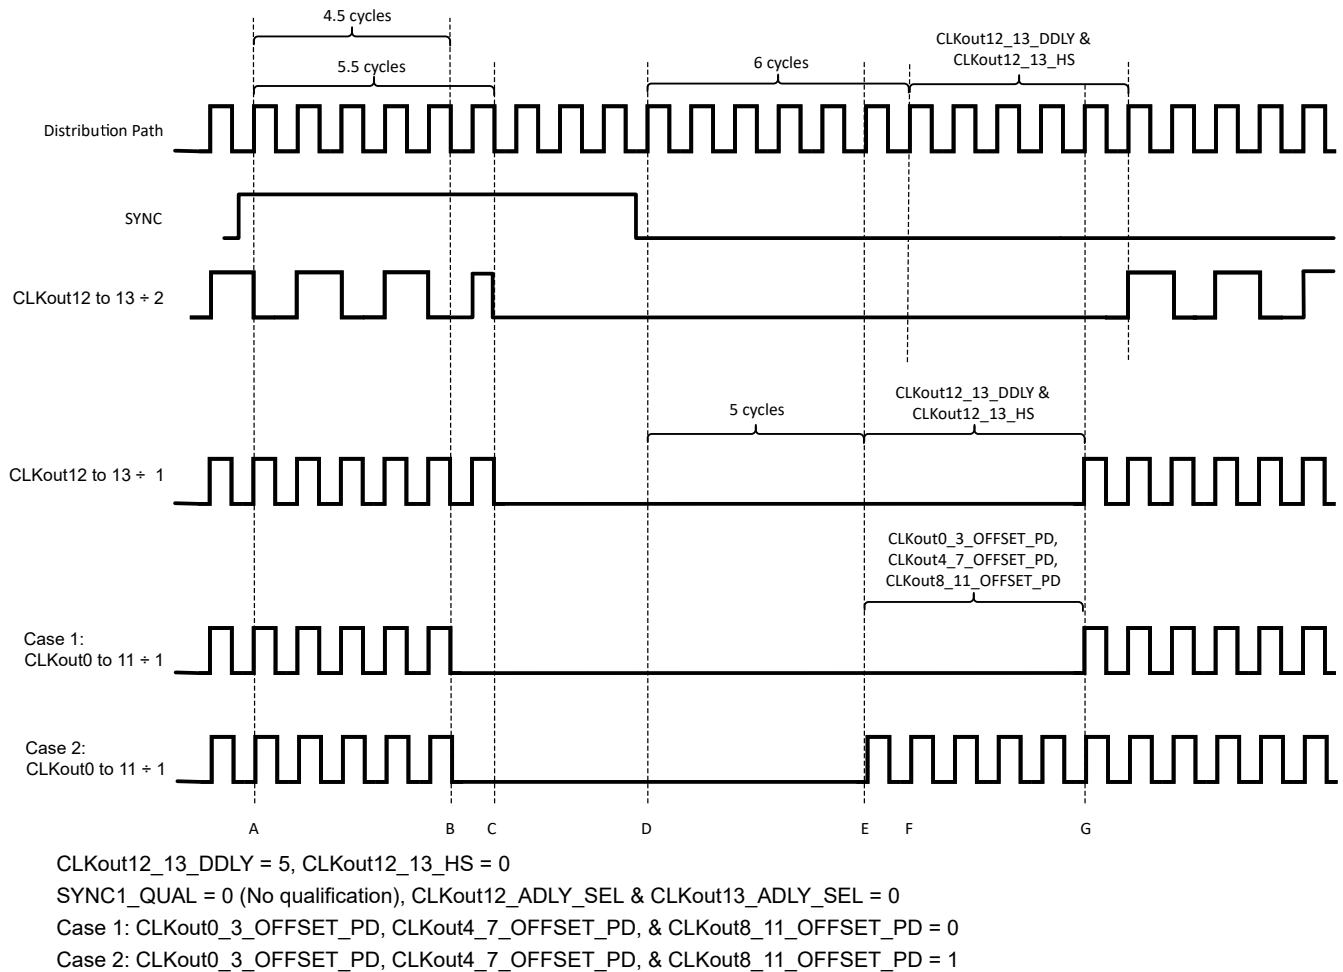

Figure 9-1. Clock Output Synchronization Using the SYNC1 Pin (SYNC1 is Active High, SYNC1_POL_INV = 0)
Refer to Figure 9-1 during this discussion on the timing of SYNC. SYNC must be asserted for greater than one clock cycle of the clock distribution path to register the SYNC event. After SYNC is asserted the SYNC event will begin on the following rising edge of the distribution path clock, at time A. After this event has been registered, the outputs will not reflect the low state for 4.5 cycles for CLKout0 to CLKout11 at time B or 5.5 cycles for CLKout12 and CLKout13 if divide = 1 or 6.5 cycles for CLKout12 and CLKout13 if divide > 1, at time C. Due to the asynchronous nature of SYNC with respect to the output clocks, it is possible that a runt pulse could be created when the clock output goes low from the SYNC event. This is shown by CLKout12 and CLKout13. See Section 9.4.6.1.2 for more information on synchronizing relative to an output clock to eliminate or minimize this runt pulse for CLKout12 or CLKout13.
Step 1: The device is programmed from register R0 to R5 with values that result in the device operating as desired, see the system requirements above. The phase of all the output clocks are aligned because all the digital delay and half step values were the same when the SYNC was generated by programming register R5. The timing of this is as shown in Figure 9-1.